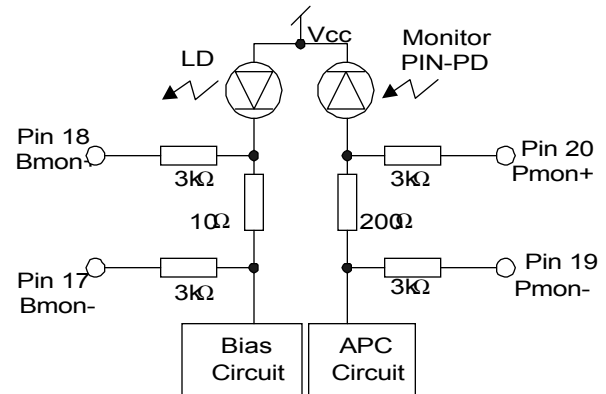

Figure 3 Bmon and Pmon Interface
2. Refer to figure 3 for details of Bmon and Pmon outputs.
8. The Laser Bias Monitor Current and Rear Facet Monitor Current are calculated as ratios between the corresponding voltages and current sensing resistors, 10Ω and 200Ω, as shown in the figure 3.